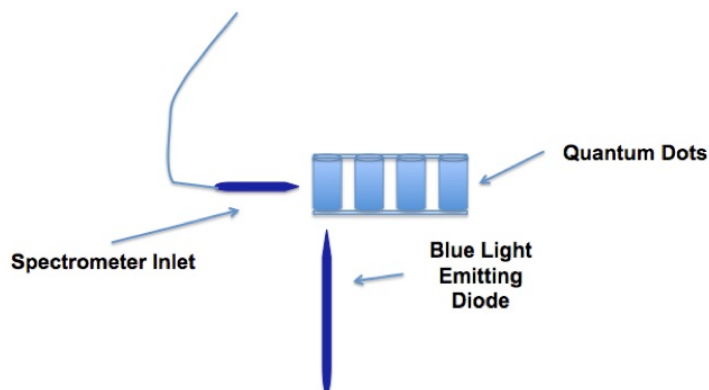

Figure 4. This figure shows the placement of blue light emitting diode, quantum dots and spectrometer inlet for emission spectra of the excitons.
2. Place the blue light emitting diode below a vial and turn it on, Figure 4.